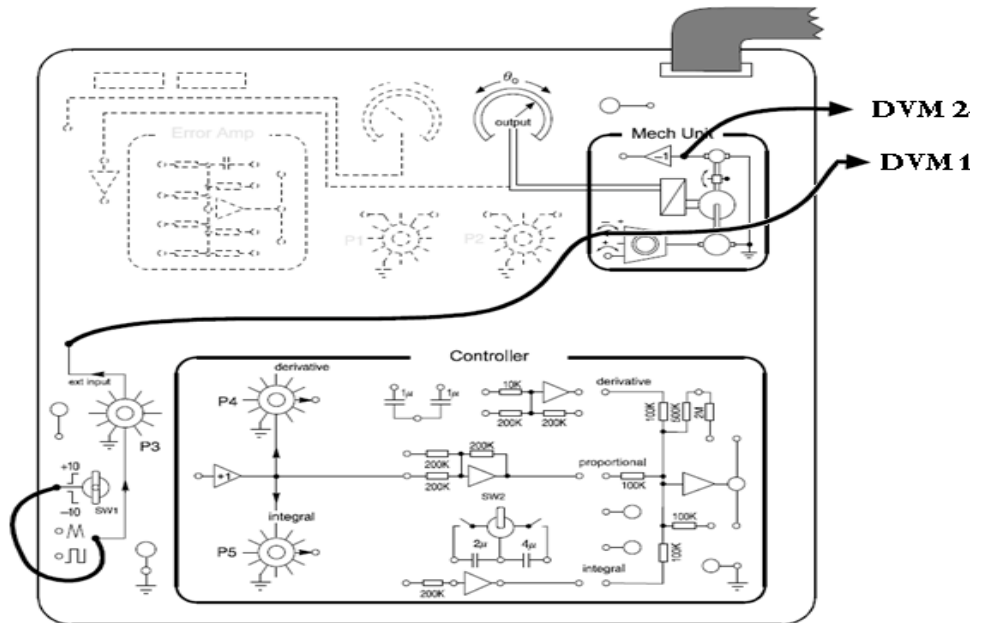

Figure 9. Connections for PART I.
2. Arrange the system as shown in Figure 9, where P3 enables a voltage in the range  $\pm 10$  V to be applied to the power amplifier.